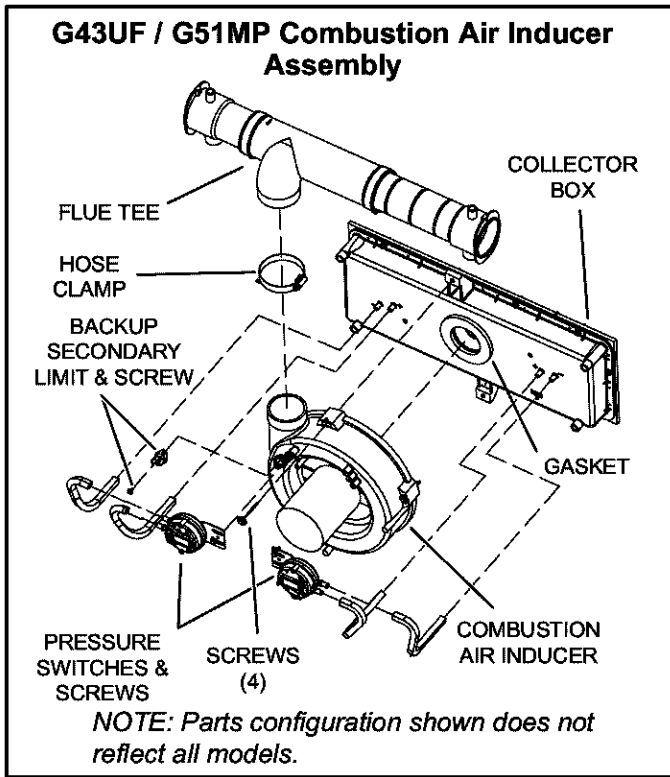

Figure 2
5. **G43UF, G51MP and G61MP(V) Units Only** — Combustion air pressure proving switches are secured to combustion air inducer. Disconnect tubing from pressure switches. Remove screws which secure pressure switches to existing combustion air inducer (see figures 2 and 3). Set pressure switches aside for re-installation.